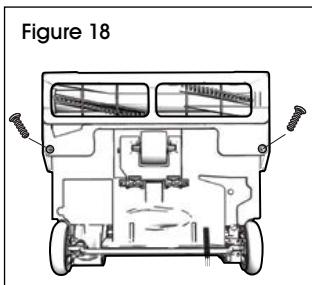

Figure 18
- Remove the two screws securing the sole plate and remove. (See Figure 18)